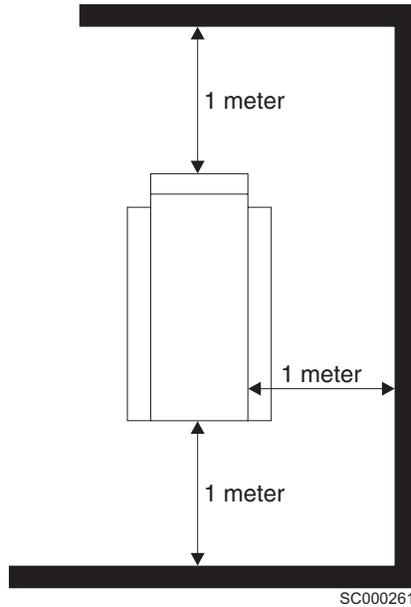

Figure 17. Service clearances
1. The necessary service clearances (see Figure 17) are provided around the 2104 Model TS4.
2. The 2104 Model TS4 can easily be moved into a position that provides the necessary service clearances (see Figure 17).